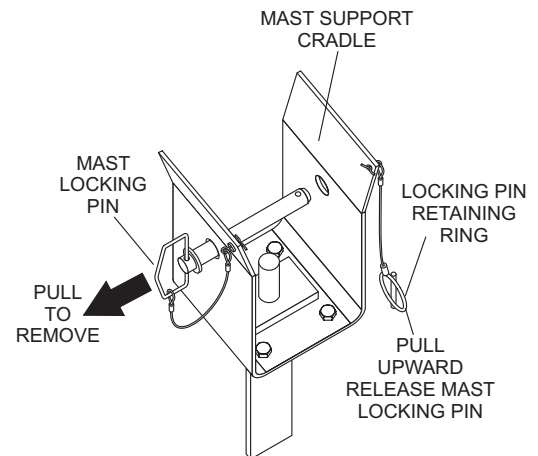

Figure 1. Mast Support Cradle
2. To remove mast locking pin from mast support cradle, pull upward on locking pin retaining ring, then pull outward on mast locking pin. (Figure 1). Pull locking pin all the way out from mast support cradle.